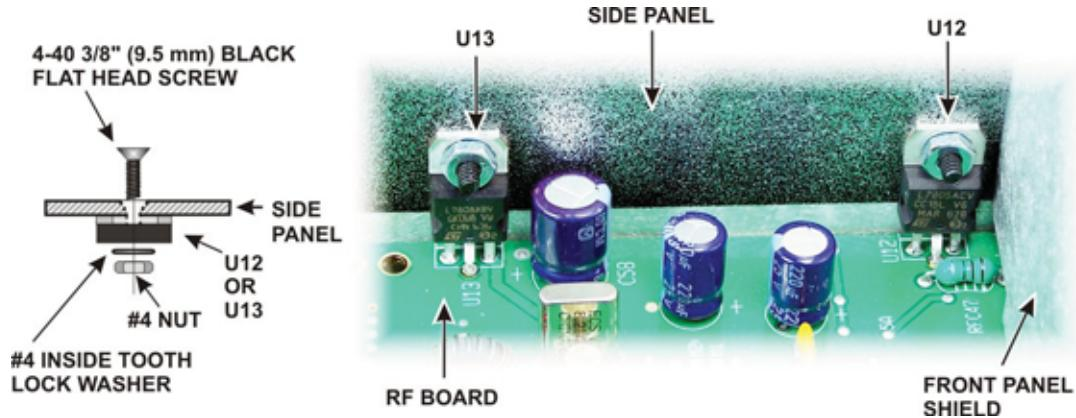

Figure 64. Attaching U12 and U13 to the Right Side Panel.
- Attach voltage regulators U13 and U12 to the right side panel as shown in Figure 64 using a 4-40 3/8" (9.5 mm) black flat head screw, #4 inside tooth lock washer and a #4 nut for each regulator as shown. When the screws are tightened the tabs on U12 and U13 should lie flat against the side panel.